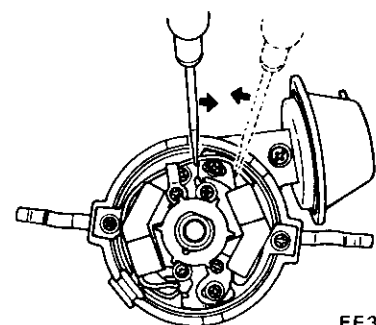

Fig. EE-66 Adjusting phase difference
- (1) Referring to Figure EE-66, turn out adjuster plate screws 1/2 to 2 turns. The screws are located at pick-up coil assembly on retarded side.
- (2) Turn adjuster plate until correct phase difference is obtained. Ignition timing is retarded when plate is turned counterclockwise.